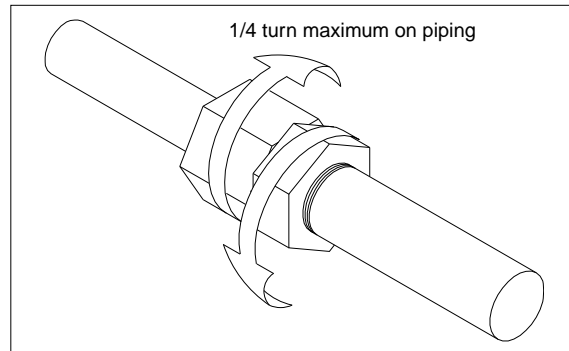

Figure 7. Loosening Locking Nut
5. Loosen the clinch assembly on the column pipe by unscrewing the three set screws in the side of locking nut, then backing off the locking nut (see Figure 7).